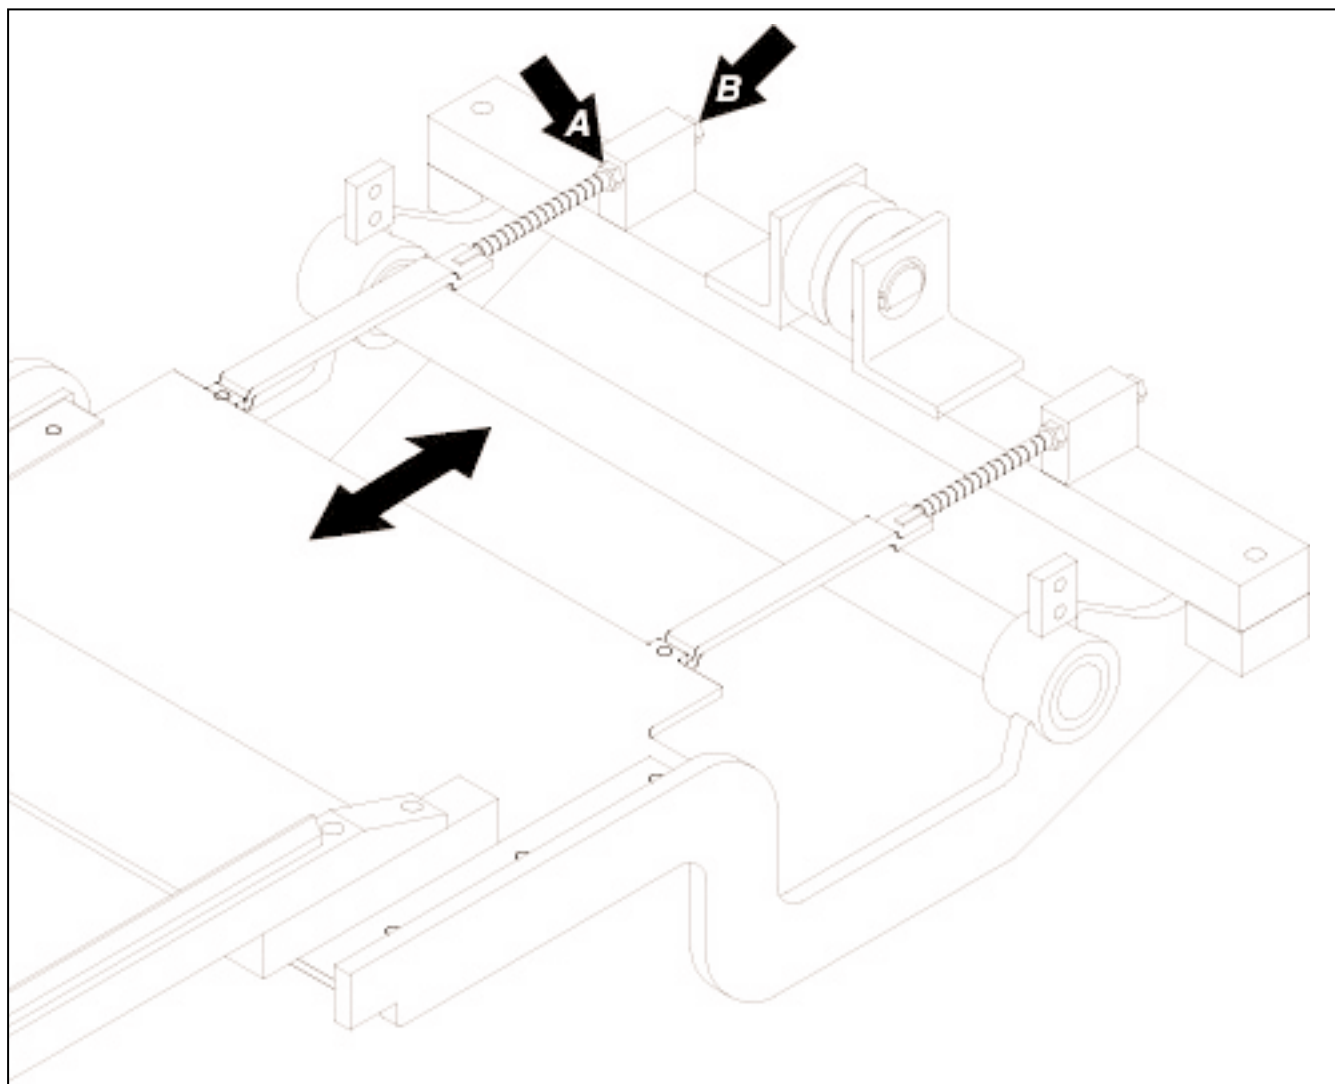

Figure 5.26 APRON PLATE ADJUSTMENT (FORWARD TO BACK).
- 5.6.3 If necessary, adjust apron plate. Loosen nut "A" - there is one nut on each side - and move forward or back with nut "B" - there is one nut on each side.(see figure 5.26).